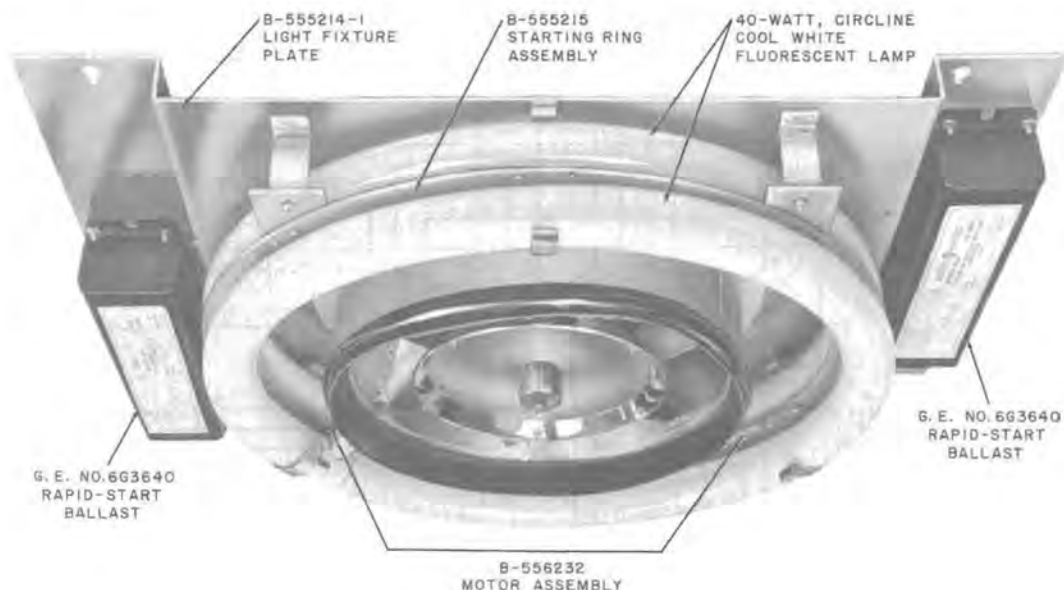

Fig. 4—KS-19207, List 3 Light and Blower Unit Plus Lamps
2.03 KS-19207, List 3 Light and Blower Unit (Fig. 4)